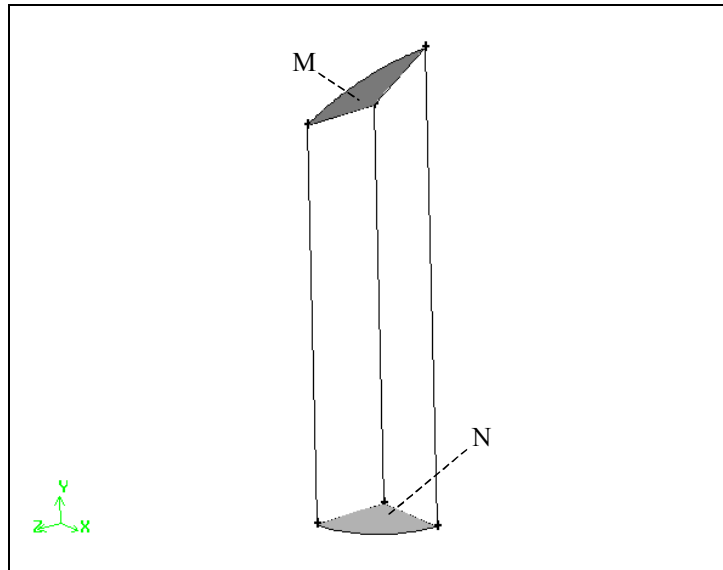

Figure 4-25: Faces to select for cooper meshing on the volume at the side of the burner geometry
*The volume to be selected is shown in Figure 4-25.*
- c) Left-click in the **Source** list box (which will turn yellow), and select the faces marked M and N in Figure 4-25 as the **Source** faces.